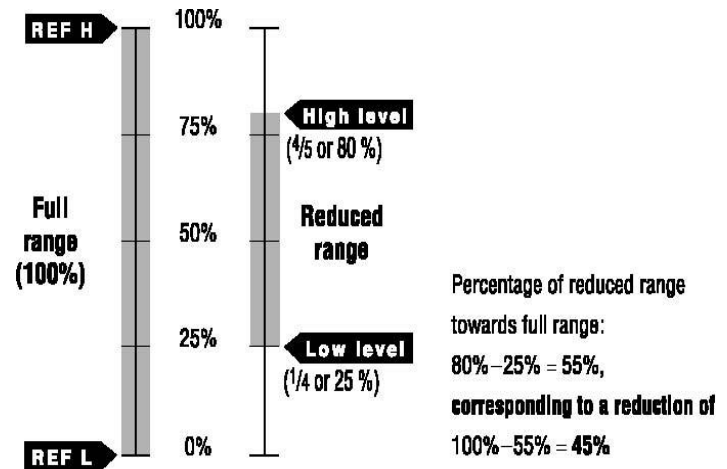

Figure 16
**Example:** To modify a calibration so that 0 % corresponds to a displacer immersed to 1/4 of its height (25%), and 100% corresponds to a displacer immersed to 4/5 of its height (80 %), adjust zero shift to 25 % and span reduction to 45 %. See schematic on Figure 16.